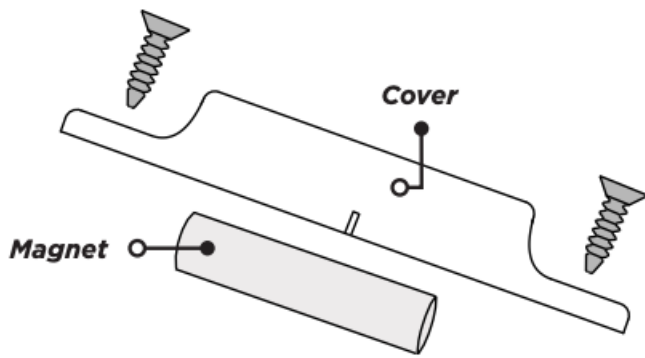

Figure 5: Commercial Magnet Assembly
3. Use the supplied #4 flat-head screws to mount the magnet assembly. See Figure 5.